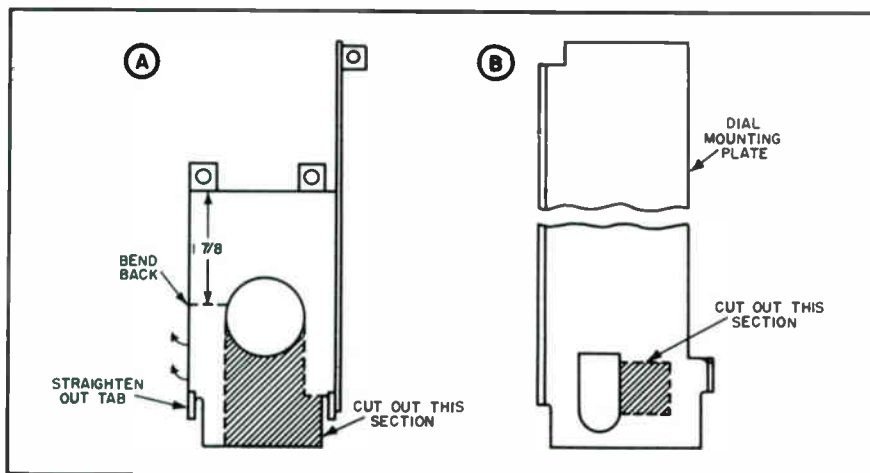
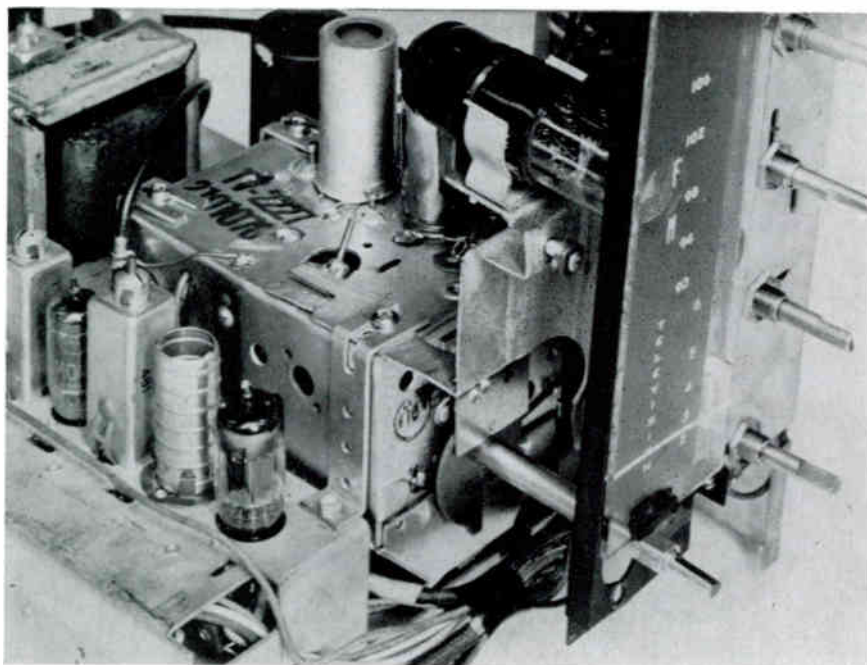

Figure B-5. RA-109 dial mounting plate modification.
Figure B-6. RA-109 chassis modified for use with a cascode turret tuner.
9. Cut out the sections of the dial plate and bracket shown in figure B-5. Bend the dial bracket 90°, at the point shown, and mount the dial and bracket as shown in figure B-6.